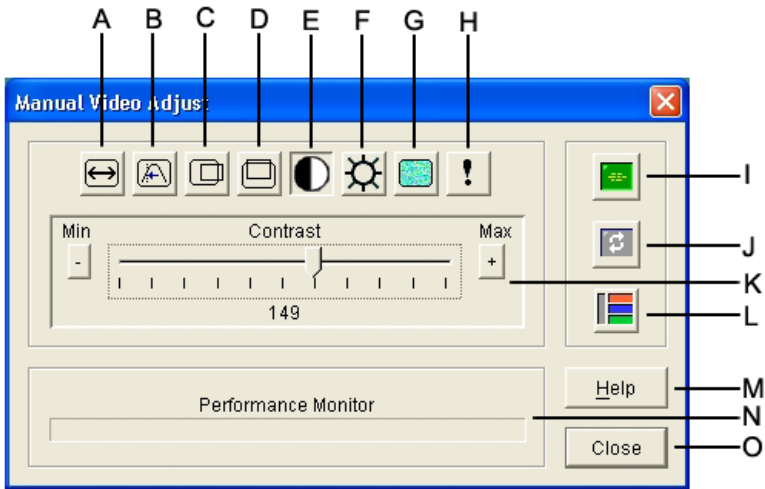

Figure 4-2. Manual Video Adjust window
1. Select **Tools > Manual Video Adjust** from the Video Viewer menu. The Manual Video Adjust window opens. See Figure 4-2; descriptions follow the figure in Table .